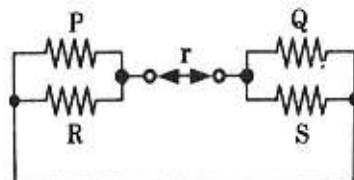

Fig. 3.6.2. Internal resistance is $r = P \parallel R + Q \parallel S$.
6. This assumption gives the circuit of Fig. 3.6.2 when E_B is replaced with a short circuit. Thus, the internal resistance of the bridge is